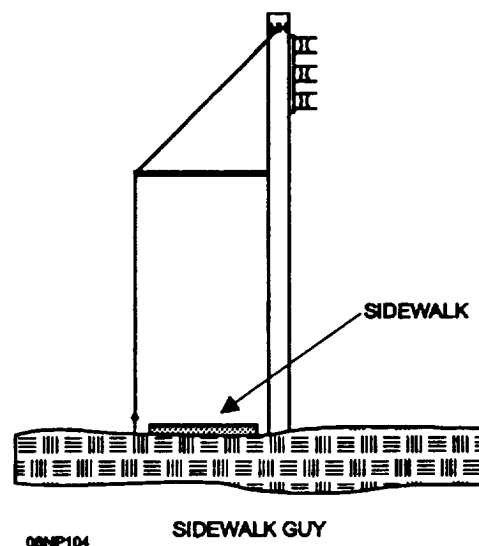

Figure 4-7.—Sidewalk guy.
**SIDEWALK GUY.**—An anchor guy with a horizontal strut at a height above the sidewalk to clear the pedestrians on the sidewalk is referred to as a "sidewalk guy" (fig. 4-7).